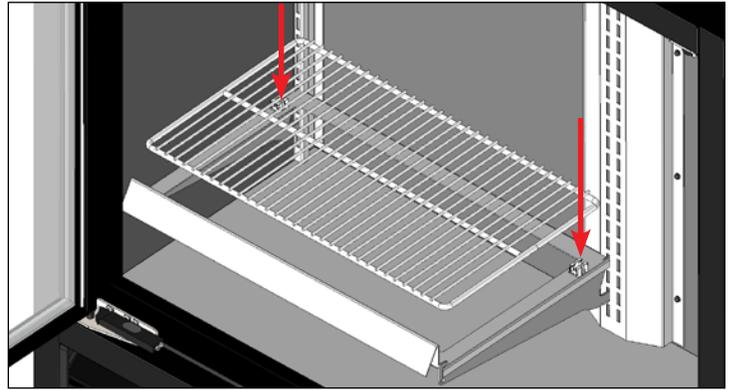

Fig. 16. Snap the wire shelf into the clips.
7. Snap the wire shelf into the shelf support clips. See figs. 16 and 17.